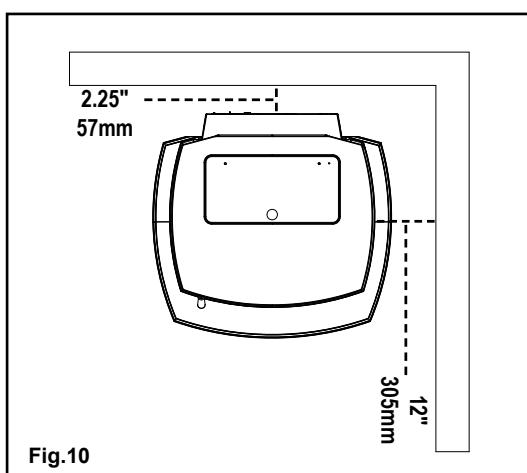

Fig. 10
Place the stove away from combustible walls at least as far as shown in Fig. 10, 11, & 12.
3. Floor protection and clearances must be followed as shown in Fig. 10 & 11.